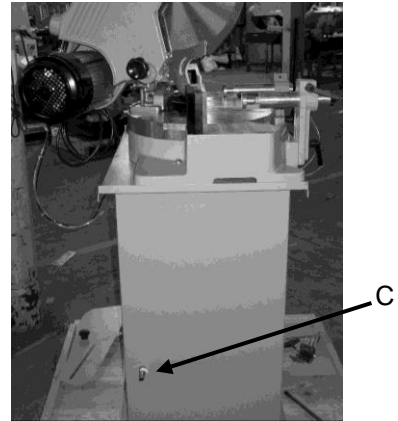

Fig 5
1. Connect the pressure-air supply on the plug C (Fig 5).